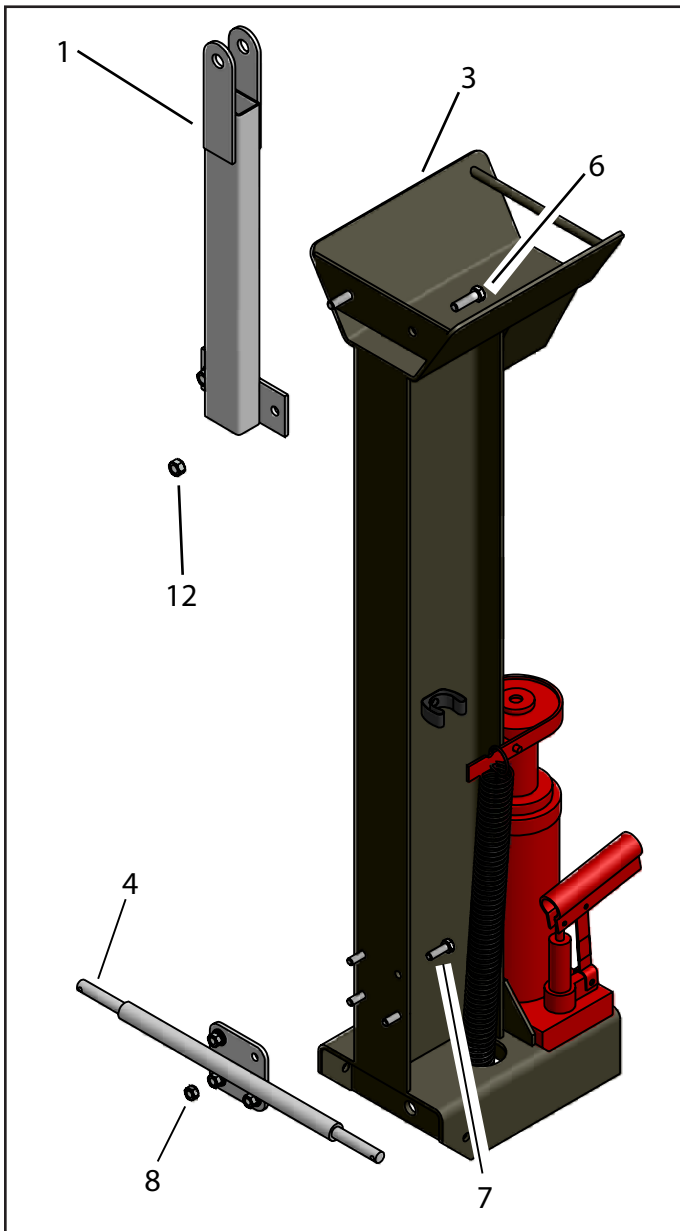

FIGURE 1
2. With the Log Splitter (3) standing on end, attach the Hitch Assy (1) using two M10 x 25 Hex Bolts (6) and secure with two M10 Hex Nuts (12). Be sure that all bolts are tight. (Figure 1)
3. Attach Axle Assy (4) to the Log Splitter (3) using four M8 x 25 Hex Bolts (7) and secure with four M8 Hex Nuts (8). Be sure that all bolts are tight. (Figure 1)